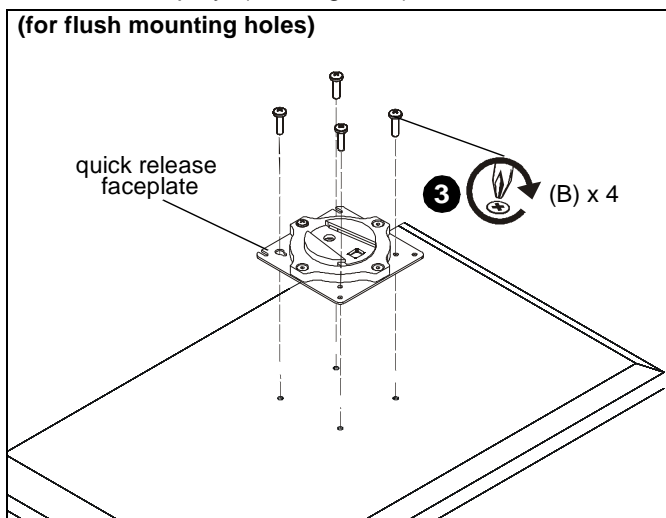

Figure 4
- Using Phillips screwdriver, carefully install four M4x10mm screws (B) through corresponding holes on faceplate and into the mounting holes on the display. (See Figure 4)